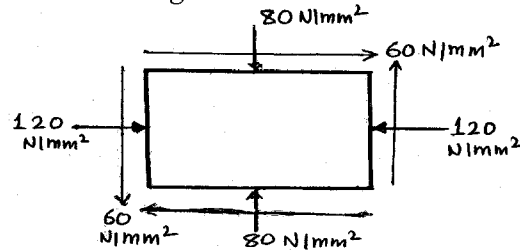

Fig. 4
- (ii) In a two dimensional stress system, a body is subjected to two perpendicular stresses and a shear stress as shown in Figure. 4. Determine magnitude and direction of principal stresses. Also plot Mohr's circle diagram.